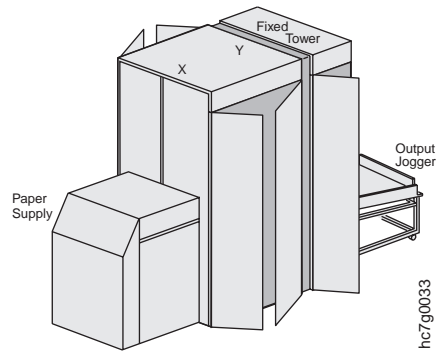

Figure 285. Right Side View of the InfoPrint Color 100
- Open the doors of the X and Y tower and the fixed tower, as shown in Figure 285, at the sides where the bottles to be replaced are located.